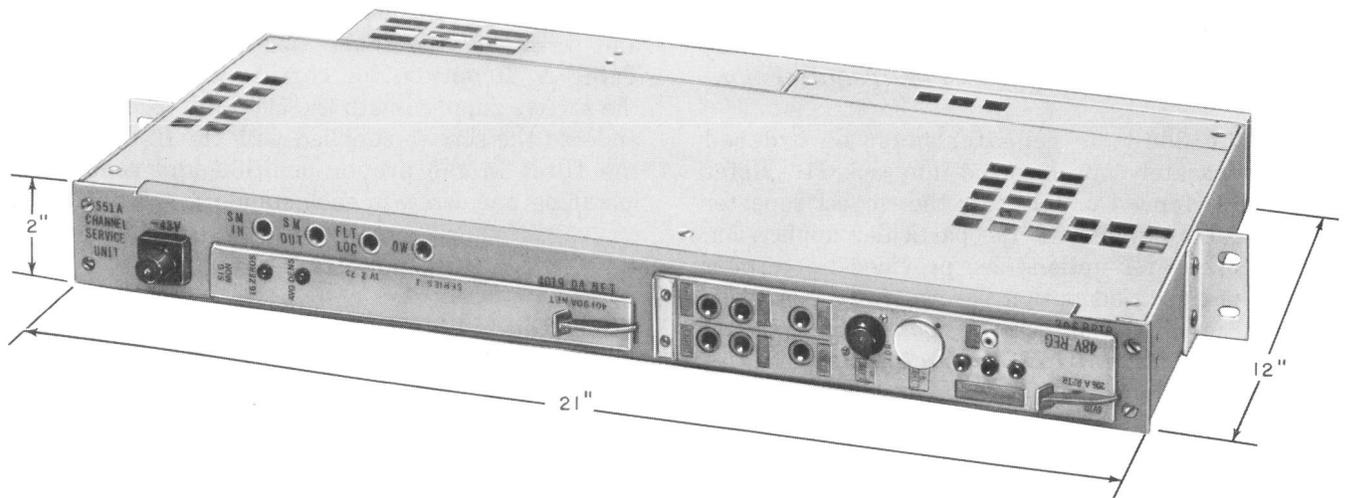

Fig. 1—551A Channel Service Unit
1.01 This section contains information concerning the installation and connection of a 551A-type channel service unit (CSU), Fig. 1. This section also contains option installation information and a list of tests to be performed at time of installation.